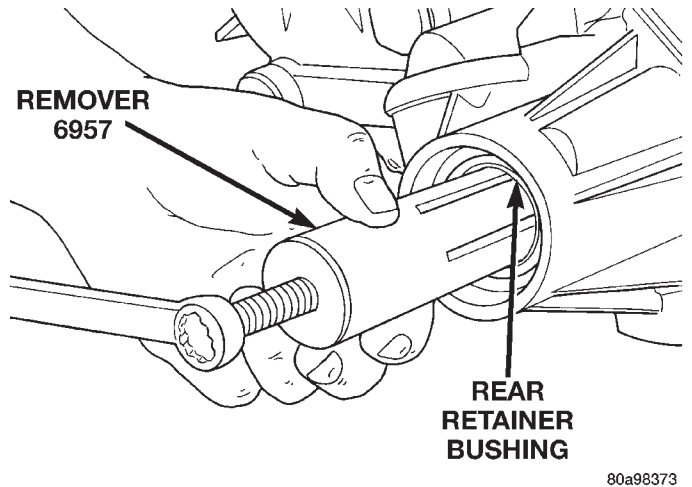

Fig. 8 Rear Retainer Bushing Removal
- (1) Raise vehicle.
- (2) Remove rear propeller shaft. Refer to Group 3, Differential and Driveline, for proper procedure.
- (3) Using a suitable pry tool or slide-hammer mounted screw, remove the rear retainer seal.
- (4) Using Remover 6957, remove bushing from rear retainer (Fig. 8).